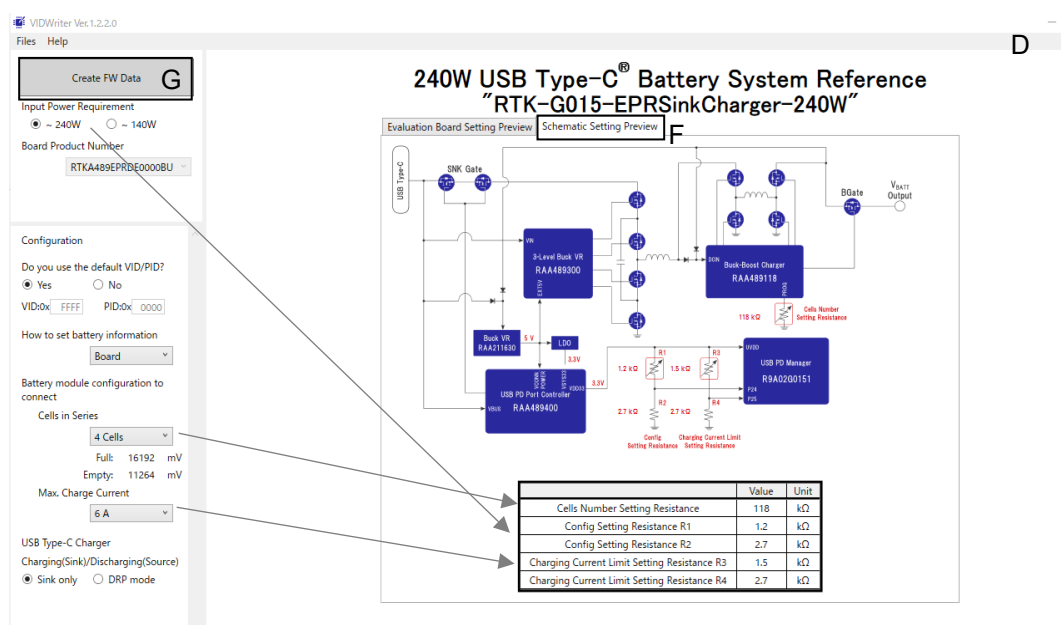

Figure 15. Main Window for VIDWriter 1.2.2.0 when Press Schematic Setting
- Press the **Schematic Setting Preview** F tab in field D and the recommended turnkey schematics with appropriate parameters are displayed as shown in Figure 15.